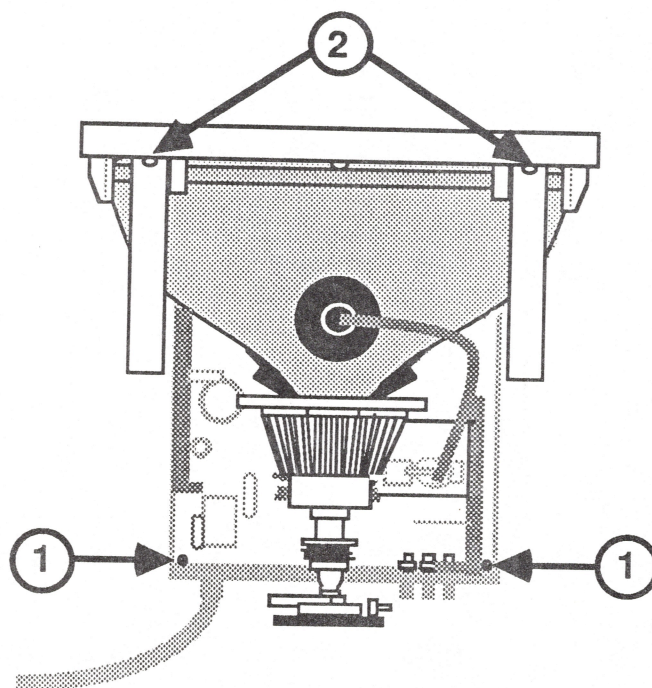

FIGURE 17
a. Remove the two screws\* (Figure 17, #1) that secure the back panel to the main logic PCB.
16. For Rev. A only, remove the two screws\* holding the two upper case support brackets\* to the bezel (Figure 17, #2).